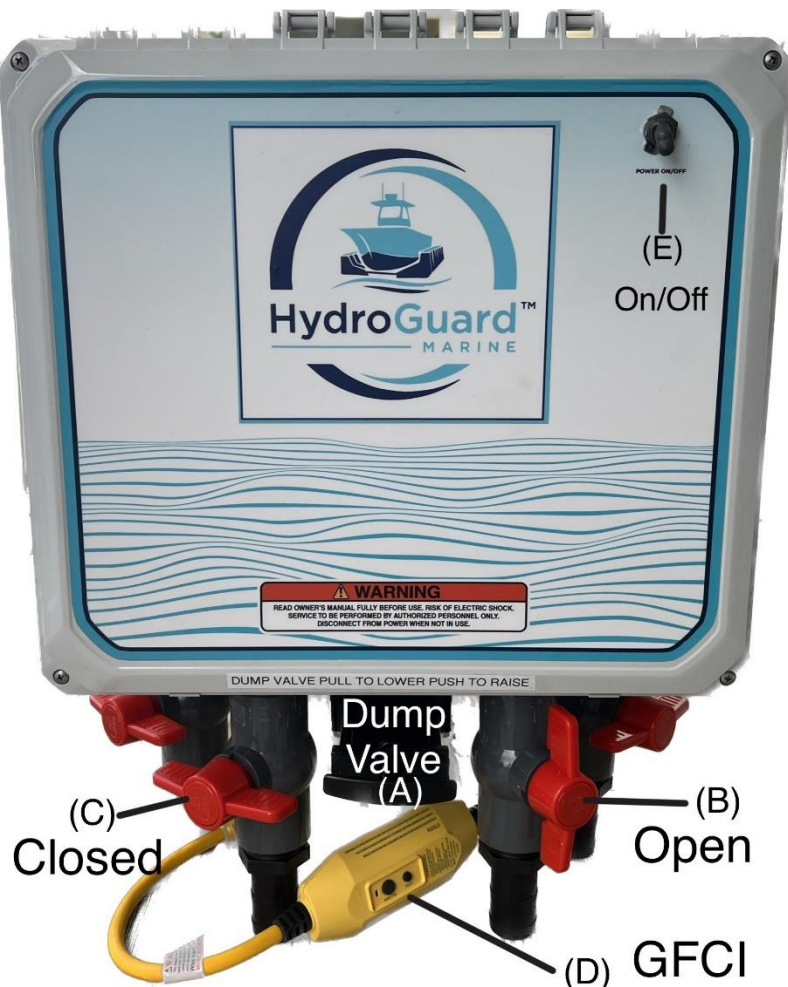

Figure 2
Familiarize yourself with the Controller as shown in Figure 2. The controller consists of a dump valve (FIGURE 2-A), 4-5 PVC ball valves (FIGURE 2-B OPEN VALVE) (FIGURE 2-C CLOSED VALVE, GFCI (FIGURE 2-D), and an On/Off toggle switch (FIGURE 2-E).
1. Open all PVC ball valves (FIGURE 2-B {handle will be straight up and down})
2. Open dump valve (FIGURE 2-A). The lift will automatically begin lowering the vessel as water enters holes in the bottom of each tank. Valves may need to be adjusted to keep the lift level.
4. Close the dump valve (FIGURE 2-A). **PVC ball valves must remain OPEN.**
5. Ensure that your lift is plugged in using the supplied GFCI power cord. Ensure that the GFCI (FIGURE 2-D) does not require reset.
6. Flip the toggle switch (FIGURE 2-E) for the blower motor to the ON position to begin pushing water out of the tanks (ball valves may need to be adjusted to keep the lift level).
8. Close all PVC ball valves (FIGURE 2-C).
9. Flip toggle switch (FIGURE 2-E) to the off position and unplug the power cord.